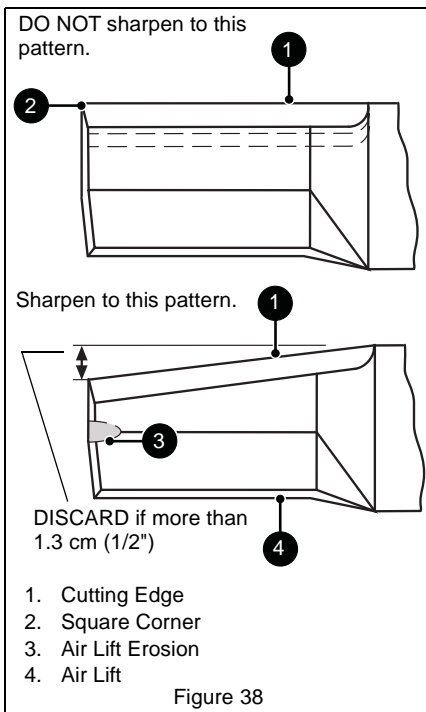

Figure 38
2. File or grind an equal amount of metal from each cutting edge of the blade until sharp. DO NOT change angle of cutting edge or round the corner of the blade. See Figure 38.